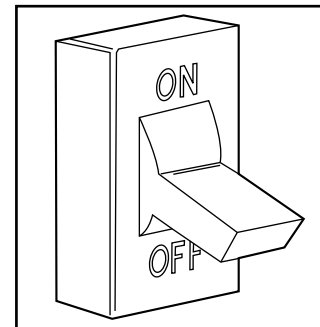

Fig. 18 – Turn Off Electrical Supply
- Turn off electrical supply to the furnace. See Fig. 18.